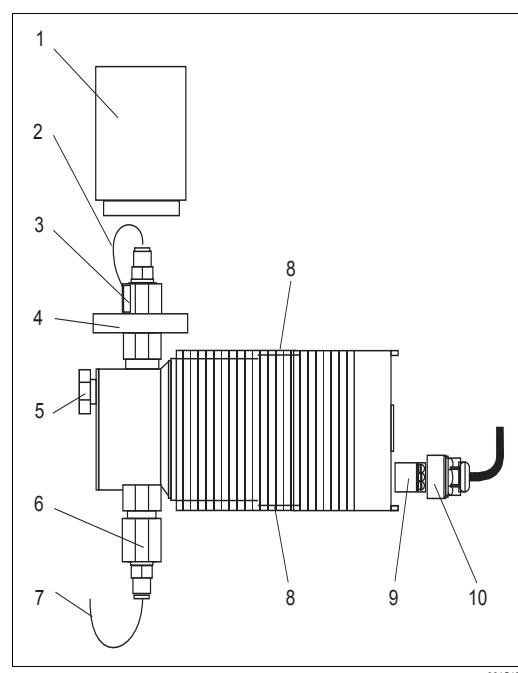

Fig. 12: Membrane pump
9. Unscrew the splash protection cap (→ Fig. 12, item 1) from the membrane pump.
10. Guide the filtrate hose (item 2) from below through the left-hand bore in the splash protection base (item 4).
11. Cut the filtrate hose such that you can insert it comfortably into the plug-in connector of the pressure connection (item 3).
12. Pull the filter hose back far enough so that it runs in a relatively narrow bend at the top (→ Fig. 12).